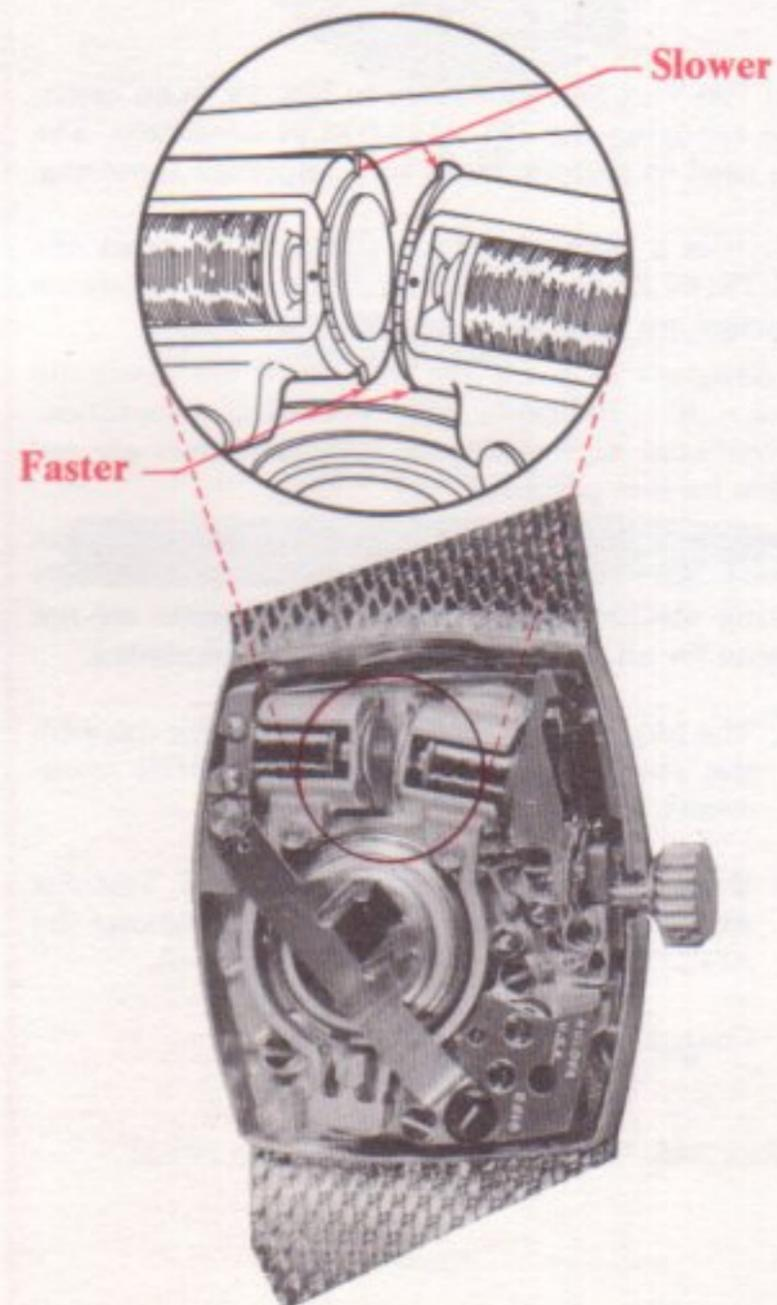

Fig. 12
The 221 ACCUTRON regulators are calibrated with eight divisions to provide easy reference during regulation. Each division is equal to 2 seconds per day of correction; in other words, rotating one of the regulators a distance equal to one division changes the rate of the ACCUTRON timepiece by 2 seconds per day. The amount that a regulator is rotated can be easily gaged by reference to the dot on the top of each cup. (Fig. 12) **If adjustment is more than two (2) seconds per day, it is good practice to divide the adjustment between the two regulators.**
3. Using a pegwood or plastic stick, rotate one or both of the regulators (Fig. 12) a sufficient number of divisions necessary to make the required correction. Rotating a regulator **away** from the **center** of the movement will cause the ACCUTRON timepiece to run **slower**; rotating a regulator **toward** the **center** of the movement will cause it to run **faster**.